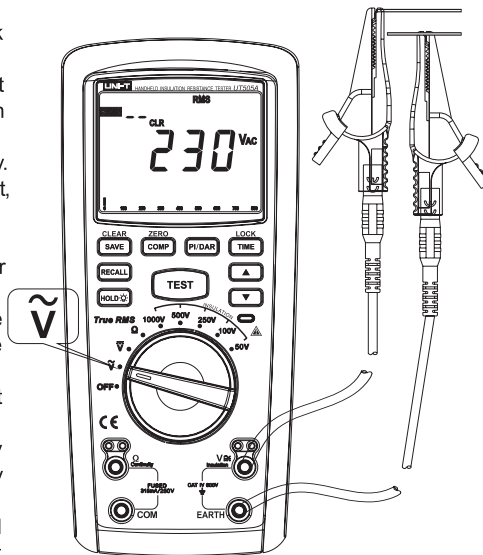

Figure 4
1. Measurement of AC voltage (See Figure 4)
- ① Insert red test pen in “ \sim V” jack (red hole) and black test pen in “EARTH” jack (black hole).
- ② Push the rotating switch to the gear “ \sim ” and connect test pen in parallel with the power source or to both ends of the load to be measured.
- ③ Directly read the measured voltage value from display.
- ④ To save the measured voltage value during measurement, just push the button “SAVE”.